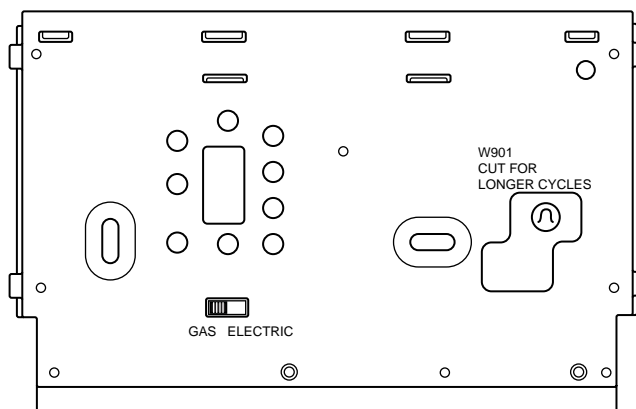

Figure 1. Back of thermostat base
If your system is an electric heat or heat-pump system that **REQUIRES** the thermostat to turn on the fan on a call for heat, locate the **GAS/ELECTRIC switch** on the back of the thermostat (see fig. 1) and switch it to the **ELECTRIC** position. This will allow the thermostat to energize the fan immediately on a call for heat. If you are unsure if the heating/cooling system requires the thermostat to control the fan, contact a qualified heating and air conditioning service person.
3. A jumper is located on the back of the thermostat, so that you may customize the thermostat to meet your individual preference (see fig. 1). In most applications, the factory jumper setting provides the most comfortable and convenient thermostat operation.